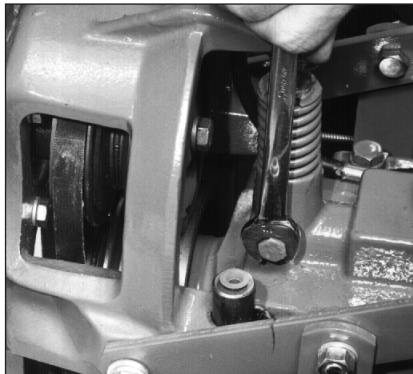

Figure 5-29: Loosen plunger retaining bolt about 3/4-turn, then tighten jam nut against plunger housing.
7. Place a chalk or pencil mark on the top edge of the plunger retaining bolt. Now, while watching the mark, loosen the bolt 3/4-turn (Figure 5-29). Do not exceed a 3/4 turn (this would disengage the bolt from the locking groove in the side of the plunger).